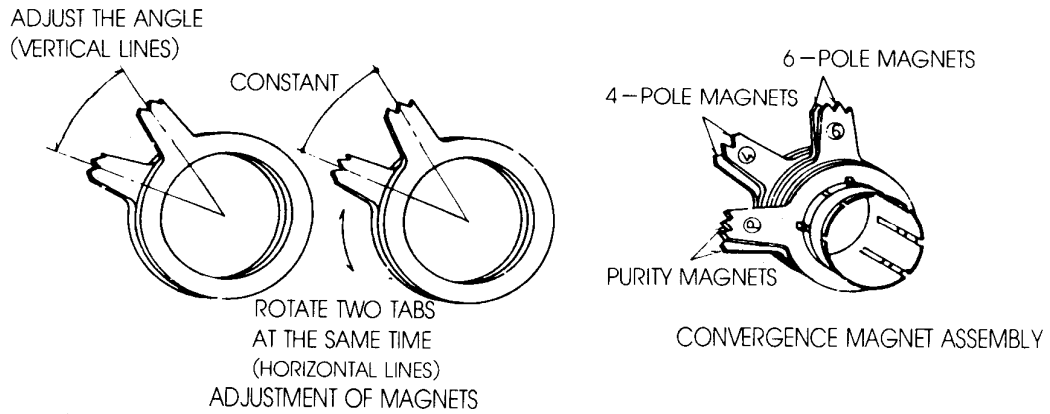

Fig.4
- 6) Rotate and spread the tabs of the purity magnet ( See figure 4 ) around the neck of the picture tube until the green belt is in the center of the screen. At the same time, center the raster vertically.
- c) Adjust two tabs of the 4–Pole magnets to change the angle between them ( See figure 4 ) and superimpose RED and BLUE vertical lines in the center area of the picture screen.( See figure 5 ).